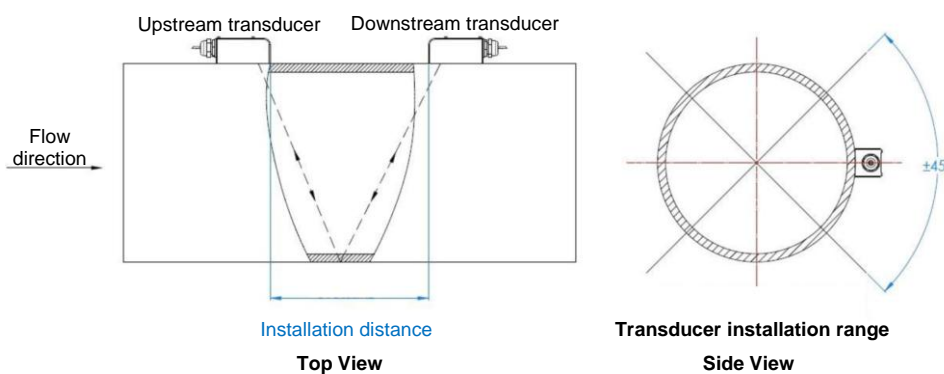

Figure 6
- To improve the accuracy of the measurement, installation of the transducers in the upstream or downstream straight pipe section as shown in the following figure is recommended (Figure 6).
(Fig. 6)
- V-type installation shall be the first priority for the pipe of 40mm–200mm. The transducers shall be aligned horizontally and their transmission directions shall be arranged against each other (Figure 6).